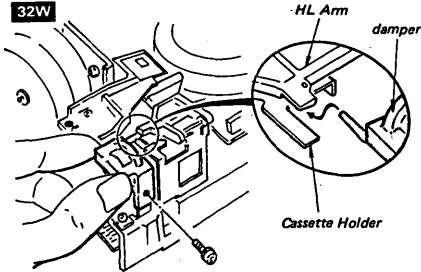

Fig. 4-7 Damper Replacement
- c. Remove the screw (PS2.6 x 6) which fastens the damper to the head load ass'y, and then remove the damper. (Refer to Fig. 4-7)
- Insert the damper arm tip into between the cassette holder and HL arm, and set the damper to the head load ass'y. (Refer to Fig. 4-7)